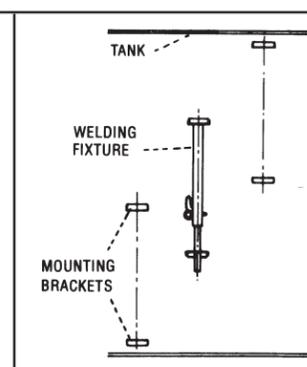

Fig. 11
- Repeat Steps 1, 2, and 3 for bottom transmitter. (See Fig. 11.)